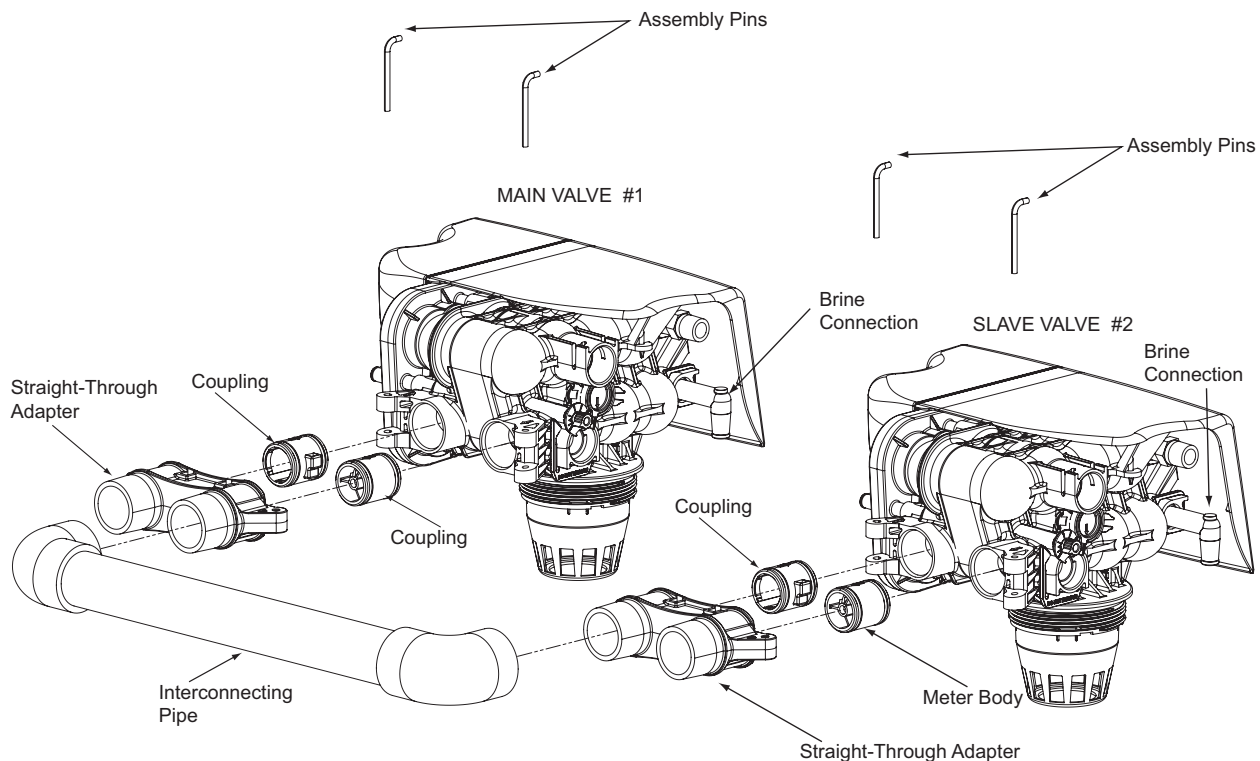

Figure 18. Straight-Through Adapter assembly.
Refer to Figure 18 and the instructions below to connect the meter, straight-through adapter, and interconnecting pipe.
2. The straight-through adapter connects directly to the control valve with the meter and coupling and two assembly pins. Lubricate all O-rings on the couplings/meter with silicone lubricant. See Figure 18.